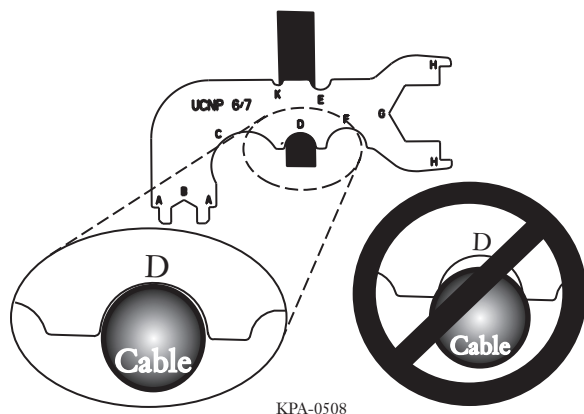

Figure 23 — Sealing Grommet Size
**Step 3** Place the end cap gauge to determine which size sealing grommet is required (Figure 23 and Table 2).